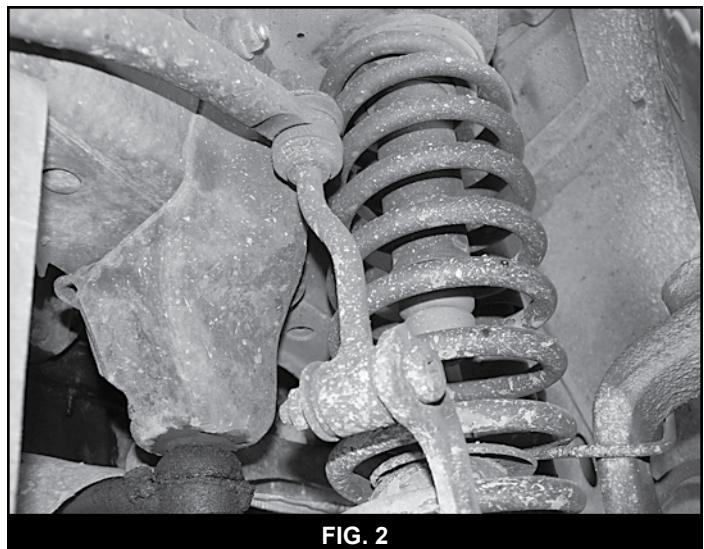

FIG. 2
- Remove the upper mounting nut from the sway bar links (Figure 2). Swing the sway bar up off of the links. Save all hardware/bushings.